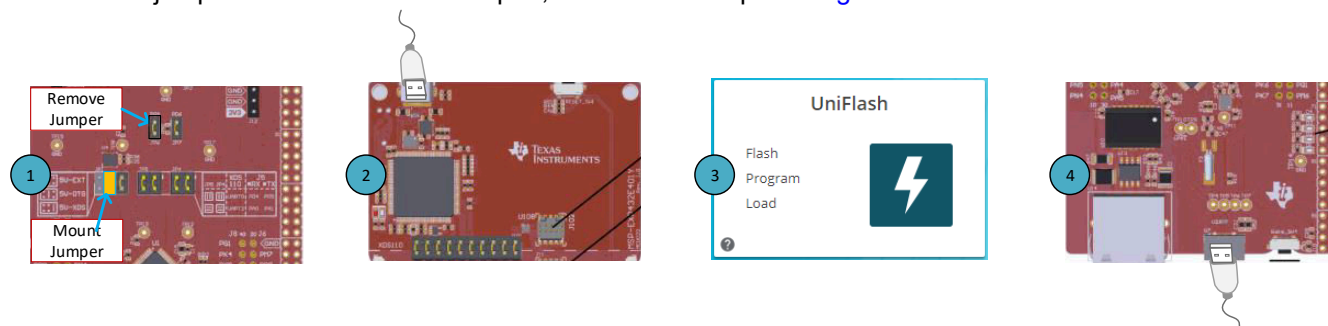

Figure 2-3. MSP-EXP432E401Y Launchpad (TI Launchpad) Setup
1. Remove jumper JP6 on the TI Launchpad, as shown in step 1 of Figure 2-3.
2. Mount jumper on 5V-OTG. Retain the jumper on 5V-XDS, as shown in step 1 of Figure 2-3.
3. Connect the USB cable to the port on the XDS110 side of the board, as shown in step 2 of Figure 2-3.